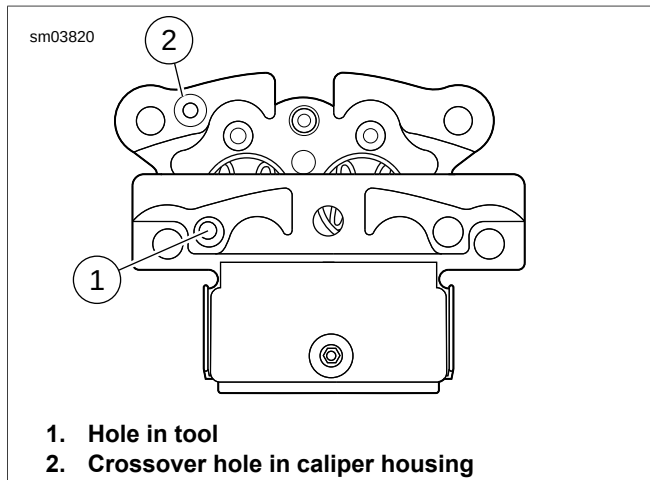
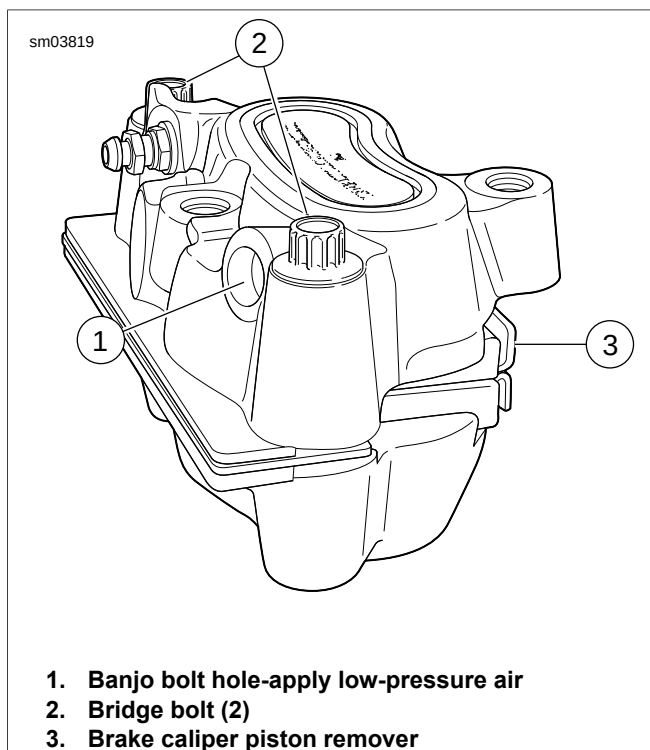

Figure 2-49. Installing Tool
Figure 2-50. Removing Pistons
3. See Figure 2-49 and Figure 2-50. Remove pistons.
- a. Place FRONT BRAKE CALIPER PISTON REMOVER (Part No. HD-48649) (3) between caliper housings.